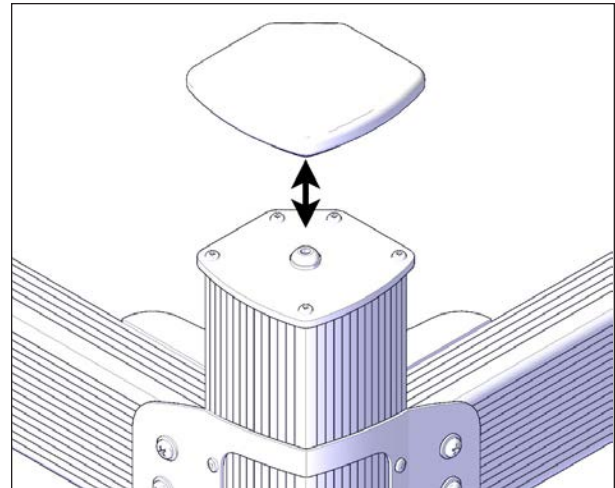

FIGURE 87: RUBBER CAP REMOVAL
2. Remove rubber cap on top of each post see Figure 87.